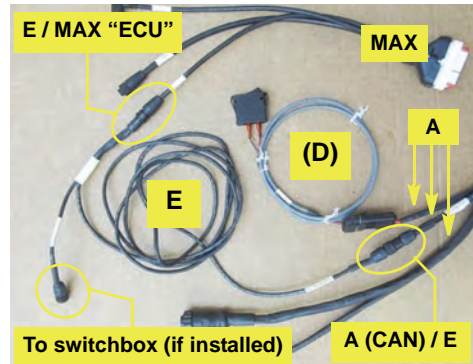

Figure 1c: Splitter cable connections
- d. Using the splitter (‘Y’) cable **E** (but see note following), tie into the existing CAN connection. For example, connect **E** between the 7-pin CAN connector labeled “ECU” on the Outback MAX cable (with the white main connector) and the 7-pin CAN connector on interface cable **A** (Figure 1c).
You can use splitter cable **E** as an extension cable between interface cable **A** and the CAN connection “ECU” on the (white connector) Outback MAX cable. You can also use cable **E** to connect the switchbox if installed (Figure 1c).